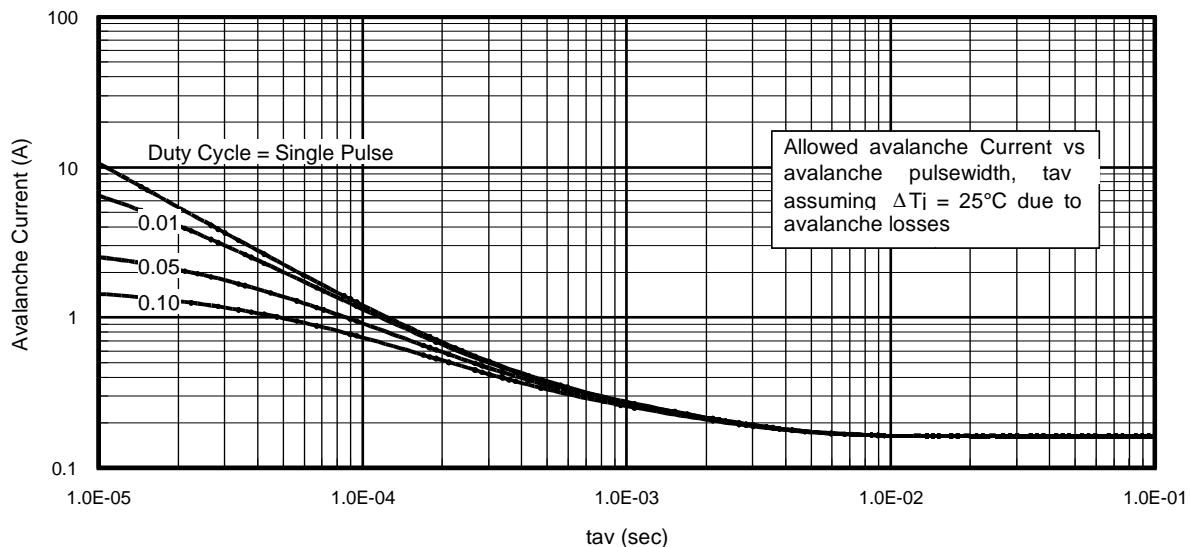

Fig 15. Typical Avalanche Current vs.Pulsewidth
**Notes on Repetitive Avalanche Curves , Figures 15, 16:
7. ΔT = Allowable rise in junction temperature, not to exceed T_{jmax} (assumed as 25° C in Figure 15, 16).